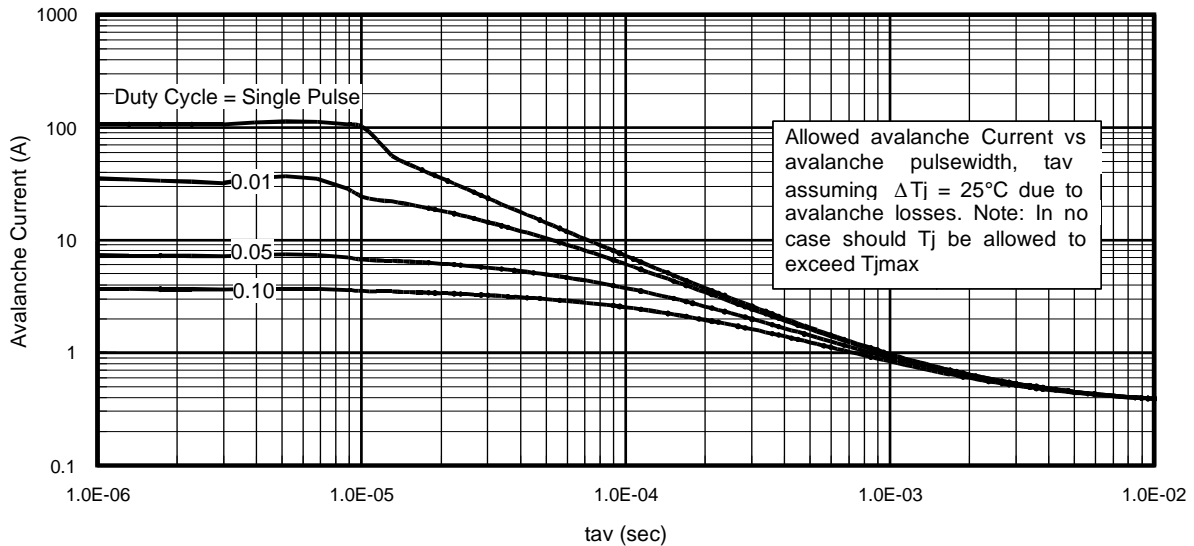

Fig 14. Typical Avalanche Current Vs. Pulsewidth
| I _{AR} | Avalanche Current ⑦ | See Fig. 14, 15, 17a, 17b | | A |
Notes on Repetitive Avalanche Curves , Figures 14, 15:
7. ΔT = Allowable rise in junction temperature, not to exceed T_{jmax} (assumed as 25°C in Figure 14, 15).